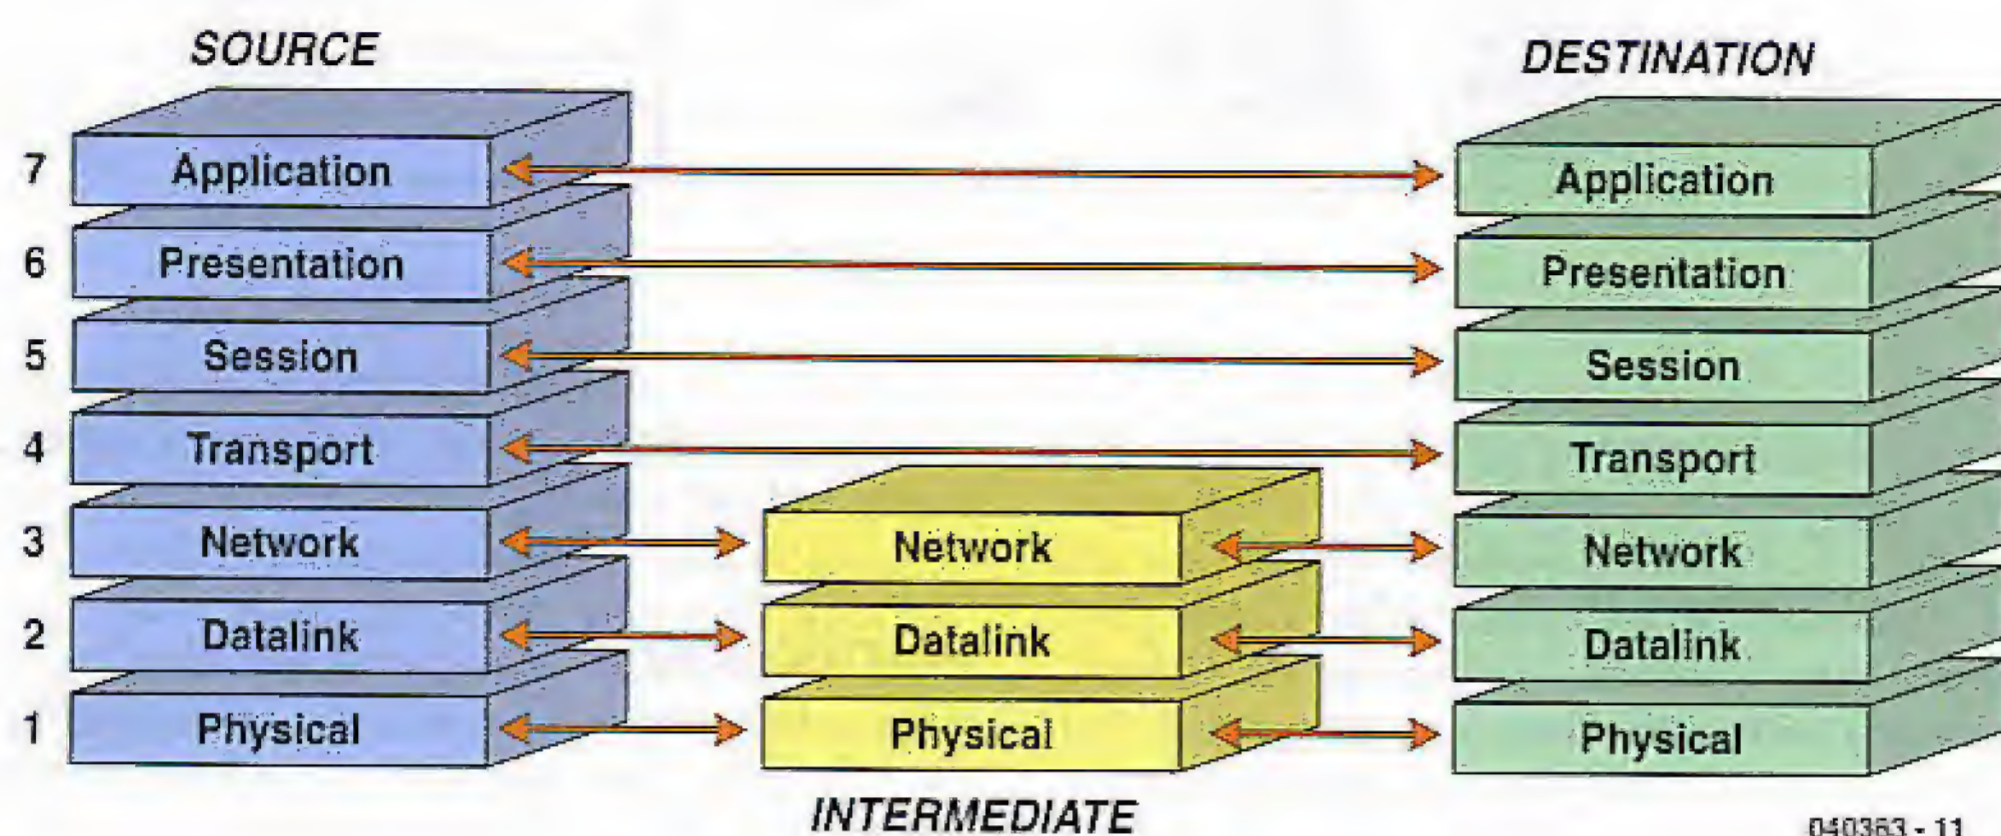

Figure 1. The Open Systems Interconnect (OSI) model developed by the ISO.
The fact that it has taken so long for the system designers to spend time on the application is not surprising in itself. Since the mid-1980s, there exists a standard describing the aspects to take into account when implementing the network functionality. At that time, the ISO (International Standards Organization) published a reference model called *Open Systems Interconnect (OSI)*, see **Figure 1**. A bit further on, we'll see that besides many standards concentrating on the actual connection and/or the manner of communicating, there are now also standards giving due attention to the highest layers of the OSI model: the area where the actual application is concerned. For convenience's sake, we will divide the standards (professional networking and home automation) into three categories derived from the OSI reference model. The subdivision is into (1) the network layer; (2) the communication layer and (3) the application layer.